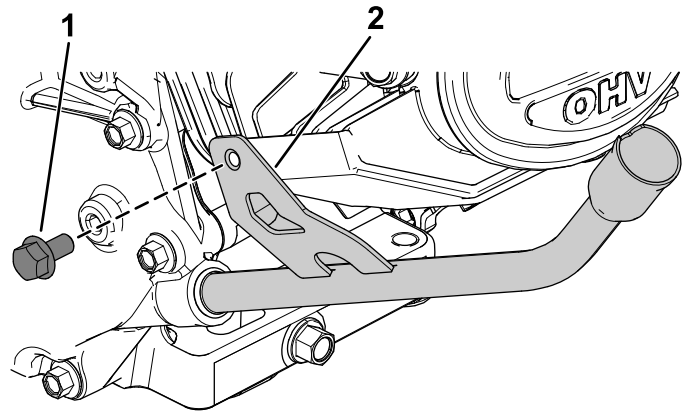

Figure 11
8. Rotate the dipstick tube so that it is parallel with the engine-mounting surface and secure it using the previously removed bolt (Figure 11).